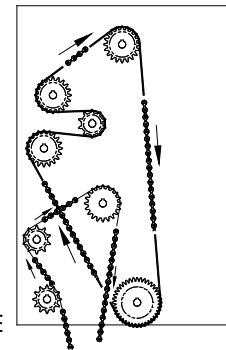

FIGURE 3
- III. LOCATE (PART NO. K203RS) TENSION BLOCK (ITEM #18) ON LEFT SIDE ASSEMBLY. RELEASE TENSION SPRING (PART NO. K120LS) (SEE FIGURE 2). THIS WILL ALLOW SLACK IN THE CHAIN (PART NO. K125LS) (ITEM #43) ON LEFT SIDE ASSEMBLY. NOW LOCATE MASTER-LINK IN CHAIN, REMOVE AND REMOVE CHAIN FROM AROUND SPROCKETS. (SEE FIGURE 3).